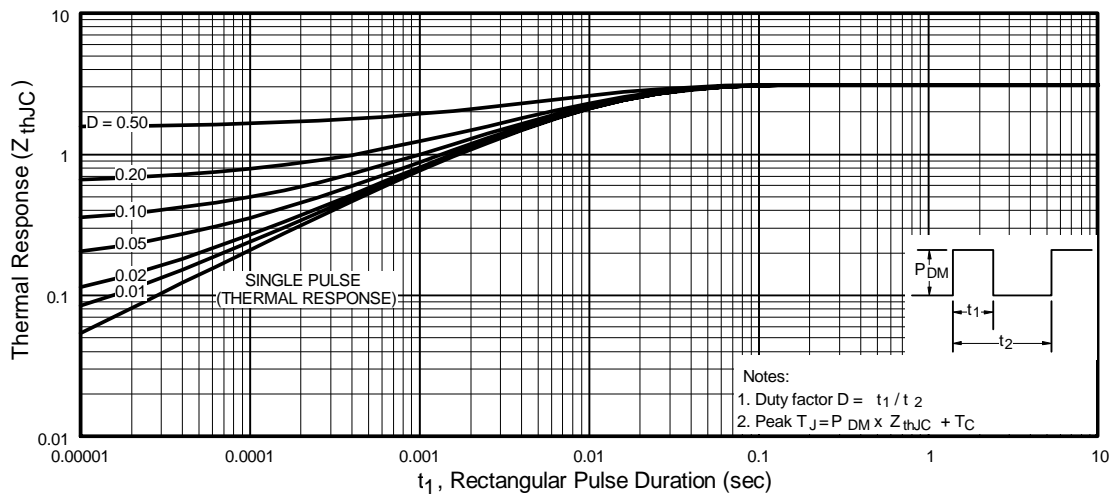

Fig 11. Maximum Effective Transient Thermal Impedance, Junction-to-Case
- ① Repetitive rating; pulse width limited by max. junction temperature. (See fig. 11)
- ② Starting T_J = 25°C, L = 13mH